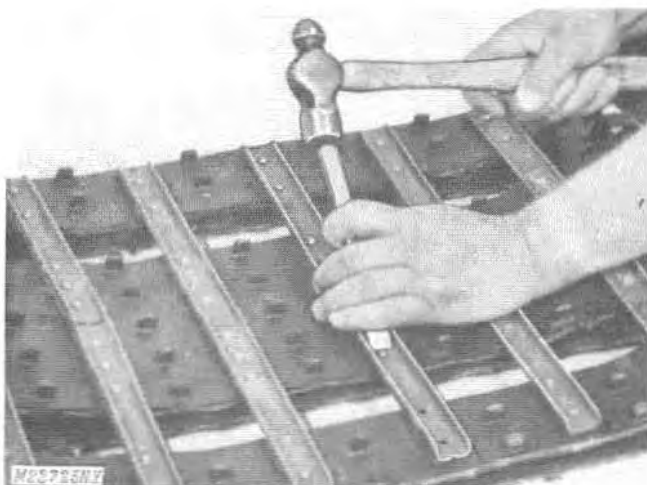

Fig. 4-Removing Grouser Bar Rivets
1. Use a hammer and cold chisel to remove grouser bar rivets, Fig. 4.